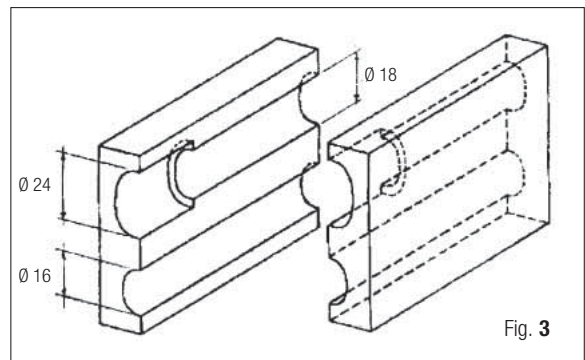
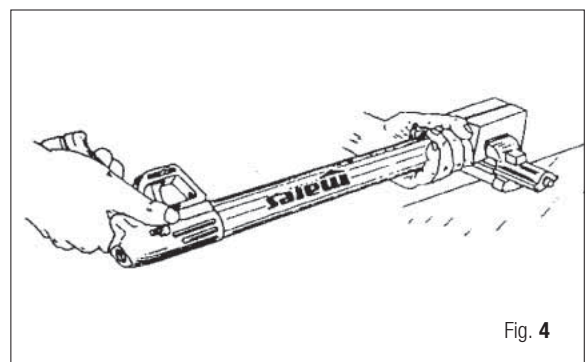
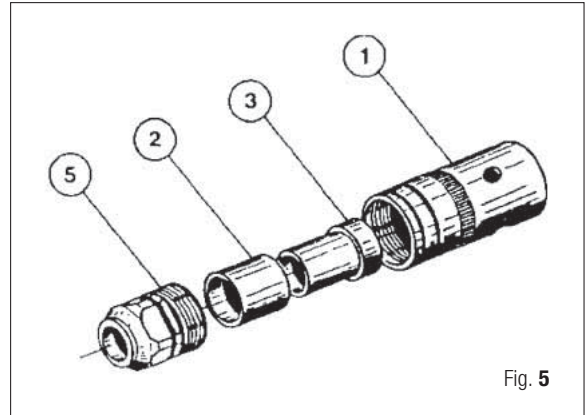
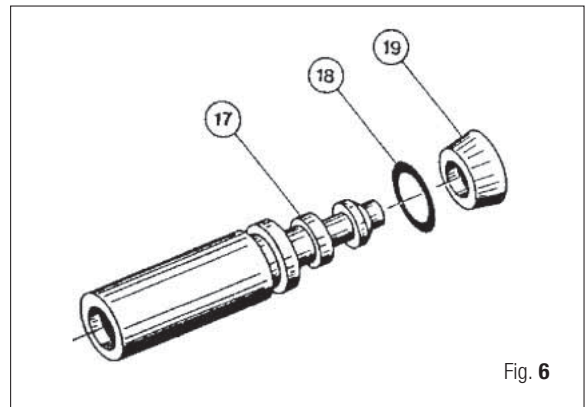

Fig. 3
Fig. 4
Fig. 5
Fig. 6
5. Using a vise, clamp the head (1-2-3-5) in the 24 mm. jaws (A-1) (Fig. 3). Remove the head by holding the handle and the nose cone and simultaneously turning them counter-clockwise using equal effort (Fig. 4).
THE HANDLE AND NOSE CONE MUST BE TURNED SIMULTANEOUSLY USING EQUAL EFFORT OR INTERNAL DAMAGE TO THE GUN WILL RESULT FIG. 4.
6. Clamp the head in the 24 mm. jaws (A-1) (Fig. 3) and remove head tip (5) from head body (1) with a 19 mm. wrench (Fig. 5).
7. Remove shock absorber (2) and insert (3) from head body.
8. Remove shock absorber (2) from shock absorber insert (3).
9. Remove piston (17-18-19) from the barrel. If necessary a shaft may be used to aid in the removal of the piston (Fig.6).
10. Remove oil wiper (19) and O-ring (18) from piston (Fig. 6).
11. Using a rotating motion, remove the nose cone (4) and O-ring (20).
13. Using a rotating motion remove the tank (25), using clamping jaws (A-3) if needed.
14. Place the barrel in the 18 mm. jaws (A-1) (Fig. 3) and clamp into vise.
15. Remove barrel O-ring (22) with tool A-7.
16. Using snap ring pliers remove the barrel bushing (21).
18. Remove trigger pin (53) using a pin punch, then remove trigger (48-52-75).
19. Remove the trigger adjustment screw (48) from trigger body (52) with a 6 mm. wrench.
20. Remove the trigger insert (75) by depressing the locking tab and sliding it out of the trigger body (52).